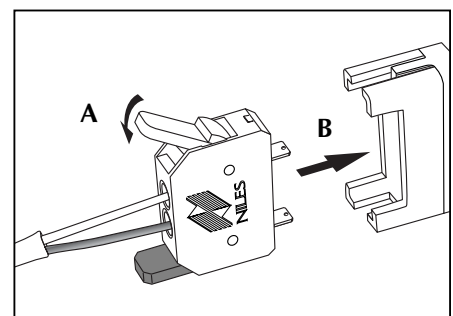

Figure 30
3. Insert the negative (-) unstripped wire fully into the speaker-wire hole next to the BLACK lever and the positive (+) unstripped wire into the speaker-wire hole next to the RED lever. Squeeze the RED and BLACK levers until you hear an audible "click," indicating that the connector has locked onto the wire. (See Figure 30-A.)
4. Insert the no-strip connector into the corresponding zoned speaker-output socket on the rear panel of the ZR-8630AV. Push it down until it locks in place. The connector fits the socket in only one position. If the terminal does not insert completely, reverse the connector 180 degrees and re-insert. (See Figure 30-B.)